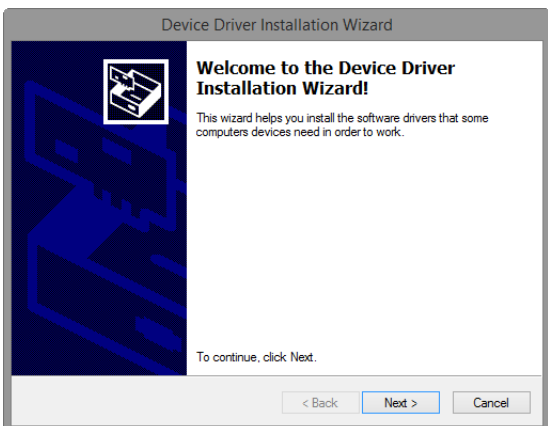

FIG. 25 Device Driver Installation Wizard (1 of 2) - Welcome dialog
3. This selection invokes the first of two *Device Driver Installation Wizards* (FIG. 25). These Wizards install the two device drivers required by the Acendo Vibe.